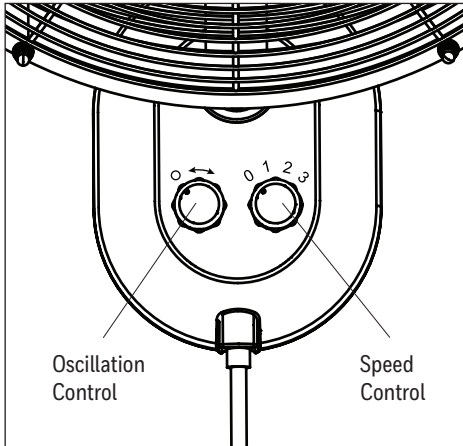

Figure 2.1
1. Use the two knobs on the front of fan base to control the fan (Figure 2.1).